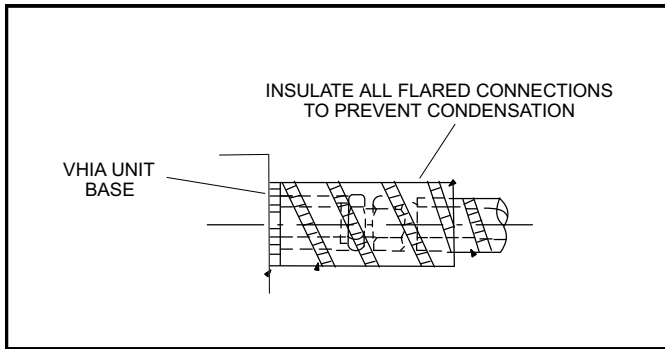

**Figure 6. Tighten Flare Nut**
- 7 - Once snug, continue another half-turn on each nut which should create a leak-free joint. A torque wrench may be used to tighten flare nuts using table 2 recommendations. (see figure 6). **Do not over-tighten a flared joint.**